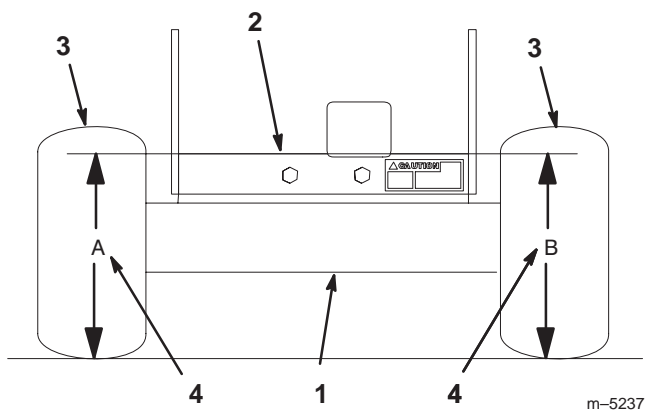

Figure 46
- Measure engine deck height at location “A” (Fig. 46).
- Measure engine deck height at location “B” (Fig. 46).